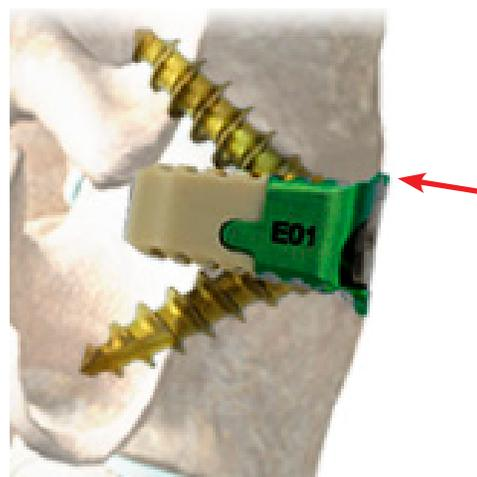

Fig. 7
**NOTE:** The serrated portion of the Lonestar Serrated Radial Ribs interbody is intended to rest on the anterior portion of the vertebral body and not be inserted fully into the disk space (**Fig 7**).